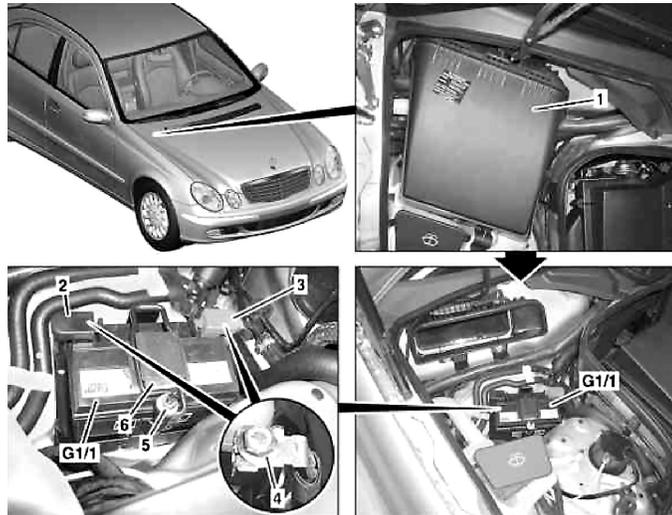

Fig. 2 Auxiliary battery removal
6. Remove housing (1), Fig. 2.
7. Open ground terminal cover (2) of auxiliary battery (G1/1), Fig. 2.
8. Remove bolt (4) of ground line and ground line, Fig. 2.
9. Open positive terminal cover (3) on auxiliary battery (G1/1), Fig. 2.
10. Remove bolt (4) from positive line, Fig. 2.
11. Remove nut (5) and fold bracket (6) upward, **Fig. 2**.
2. Install nut (5) and fold bracket (6) downward, **Fig. 2**.
8. Install housing (1), **Fig. 2**.